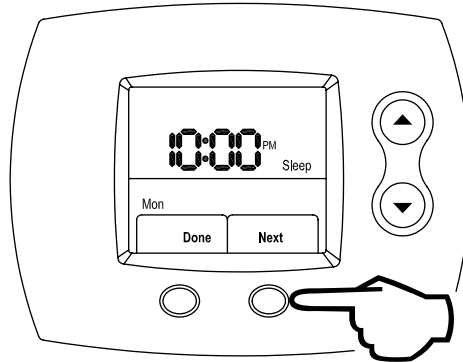

Figure 99
Step 25: Press the **RIGHT** (Next) button to lock in AM / PM. This is shown in Figure 99.